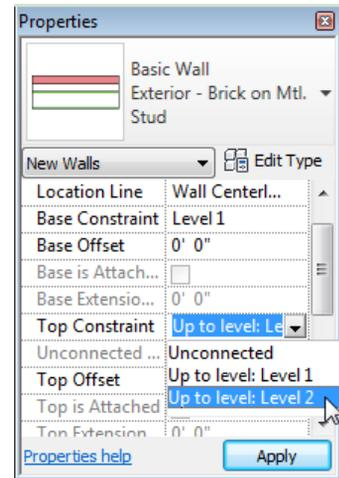

Figure 3-30 Setting the **Top Constraint** parameter using the **Properties** palette
- d. Modify **Top Constraint- Up to level: Level 2** and **Location Line - Wall Centerline** as wall properties using the **Properties** palette, refer to Figure 3-30.
- In the **Properties** palette, ensure that the **Location Line** parameter has **Wall Centerline** as the default value. Click on the column adjacent to the **Top Constraint** instance parameter; a drop-down list is displayed. Select **Up to level: Level 2** from this drop-down list, and choose the **Apply** button, as shown in Figure 3-30.